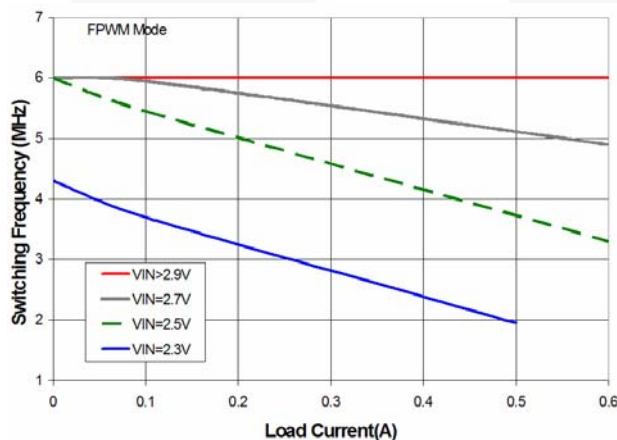

Figure 13. Effect of $t_{OFF(MIN)}$ on Switching Frequency
4. Limited by the effect of t_{OFF} minimum (see Figure 13 in Typical Performance Characteristics).
The switching frequency drops when the regulator cannot provide sufficient duty cycle at 6MHz to maintain regulation. This occurs when V_{OUT} is 1.8V or 1.82V and V_{IN} is below 3V at high load currents (see Figure 13).